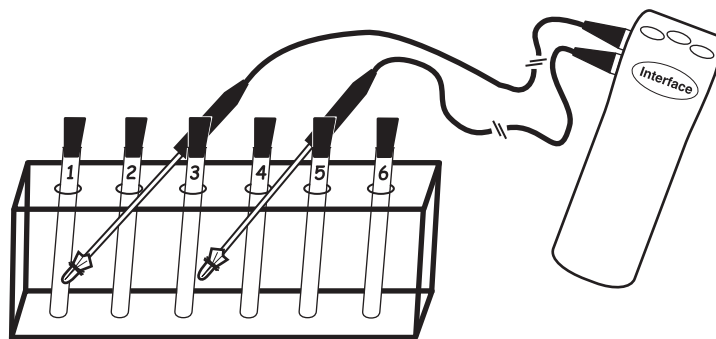

Figure 1.
6. Begin collecting data (temperature versus time) at 2 second intervals with the temperature sensors. Remove the sensors from the liquid after 10 seconds and extend the sensors over the test tube rack as shown in Figure 1. Continue collecting data for 180 seconds as the liquids evaporate from the probes. (*This is Trial A.*)